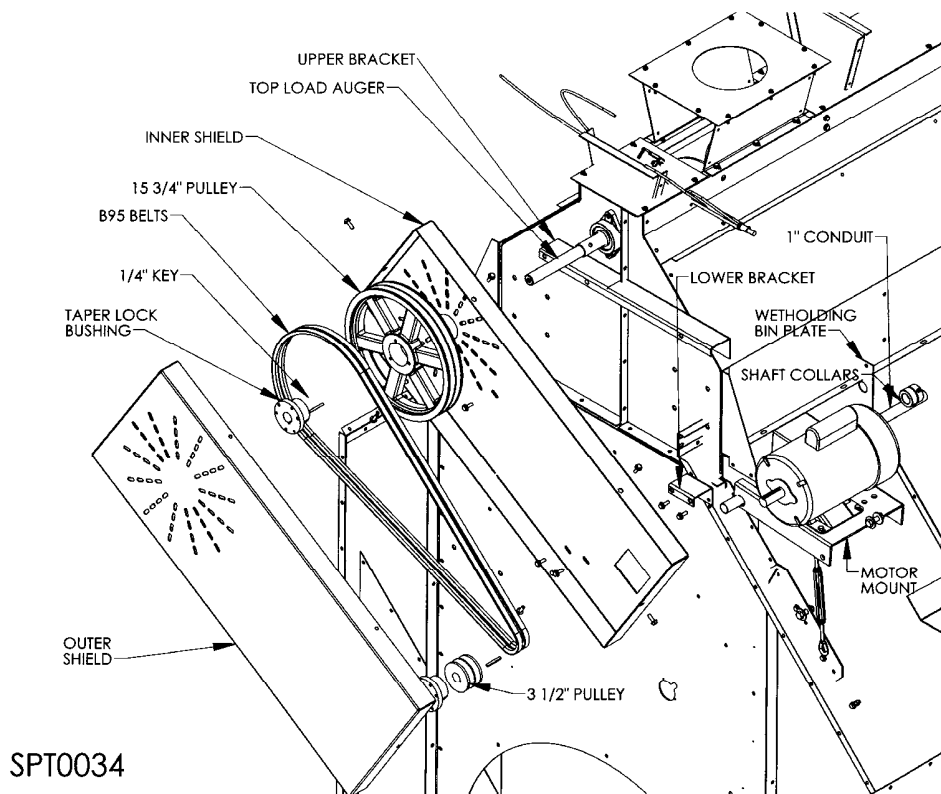

Fig. 2-15 – Top load auger components
2. Hold motor mount up to holes on side of wet holding bin. Slide a 1" conduit tube through motor plate holes of dryer. See Fig. 2-15.
8. Bolt inner shield to upper and lower brackets using 5/16" bolts, washers, and nuts. See Fig. 2-15.
11. Slide outer shield around inner shield and attach with six (6) 5/16 x 1" bolts. See Fig. 2-15.